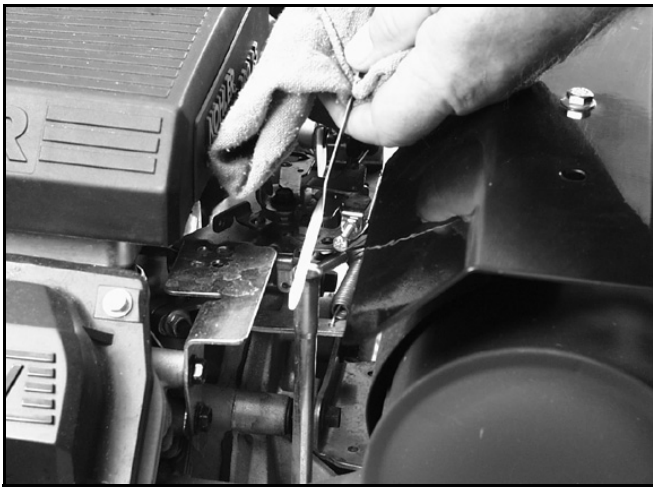

Figure 1
3. Pull the oil dipstick and wipe the metal end clean (Figure 1).